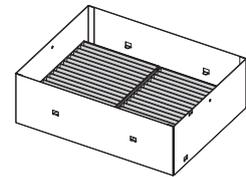

Fig. 3
- When the two air filter units are attached (Fig. 3), proceed to “Attaching the long life filter cover” (➔ page 217) next.